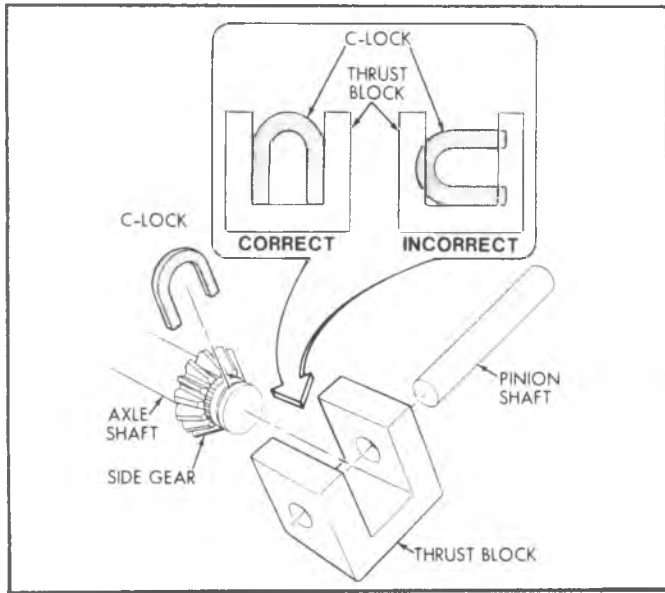

Fig. 11—Correct C-Lock Position
5. Reach into the case with a screwdriver or similar tool, and rotate the C-lock until its open end points directly inward, as shown in figure 11. The axle shaft cannot be pushed inward until the C-lock is properly positioned.
7. When installing C-locks keep the pinion shaft partially withdrawn. Place the C-lock in the same position shown in figure 11. Carefully withdraw the axle shaft until the C-lock is clear of the thrust block. When both locks are installed, install the pinion shaft and lock screw.